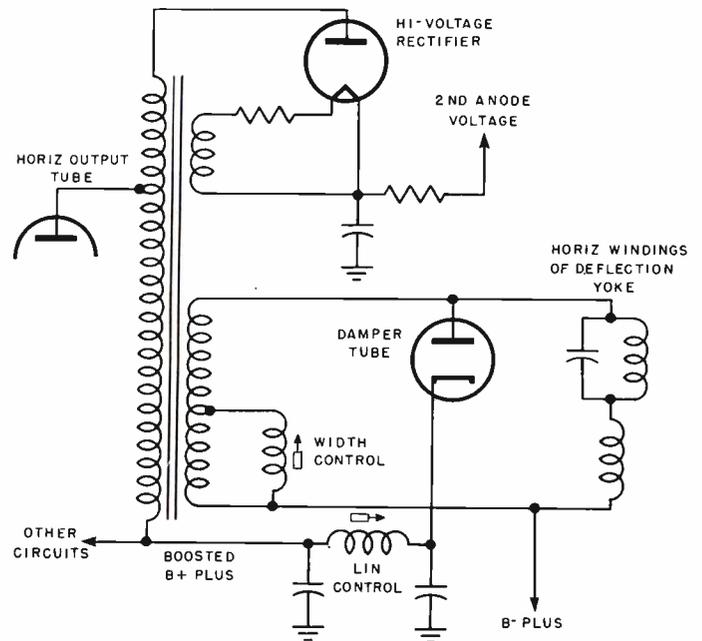
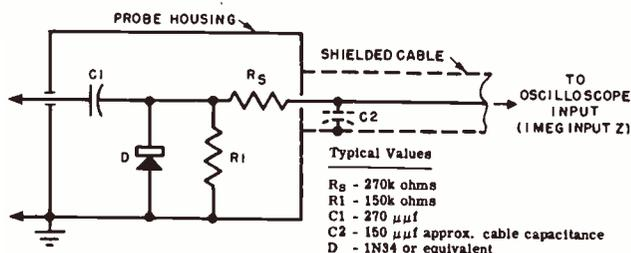

Fig. 1—Schematic of a typical horizontal-output circuit.
Fig. 6. Crystal demodulator probe for oscilloscope use.
It is not a good idea to plunge into the maze of widespread results without at least some anticipation of what is involved. To begin, the yoke's horizontal windings do not lie, as first thought would seem to indicate, on some isolated tap of the flyback transformer's secondary, loftily unconcerned with the rest of the receiver. Figure 1 is a conventionalized and simplified representation of what a horizontal output circuit looks like from the plate of the output tube to the yoke. Closely allied to it, by direct or indirect connection or by inductive coupling, are the high-voltage, width, linearity, damper, boosted B-plus, and normal B-plus circuits—not to mention the yoke itself. This list is by no means definitive. In most receivers, other circuits are supplied by the boosted B-plus; in many, the flyback transformer is tapped at one point or another for a control pulse which is fed back to the horizontal oscillator and oscillator control circuit; in receivers using keyed agc, the keying pulse is almost always extracted from some point in the output stage.
A crystal demodulation probe for oscilloscope use is shown in Fig. 6. A comparison with Fig. 3(B) shows that the essential difference between the two is the value of the components employed. The crystal diode is shown reversed, in this instance, only to provide a composite video signal in its positive-pulse phase as shown in Fig. 1. The value of resistance for R_5 for example, is such that 80 percent of the diode output is at the oscilloscope input, a far more satisfactory situation. For signal-tracing purposes, an even lower value of resistance for R_5 might be preferable except that less isolation is provided. Also notice the reduced value of the R_1C_1 and R_5C_2 time constants resulting in more faithful reproduction of the horizontal sync pulses. R_L , in this case, is the paralleled resistance of R_1 with the back resistance of the diode. The similarity of the two circuits points to a simple way of converting from one to another. Where a VTVM crystal-diode probe is to be used as a demodulator